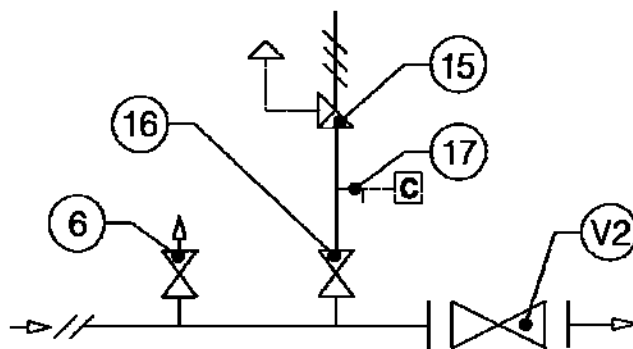

Fig. 6
3.1.2 INSTALLATION WITH ON/OFF VALVE (Fig. 6)